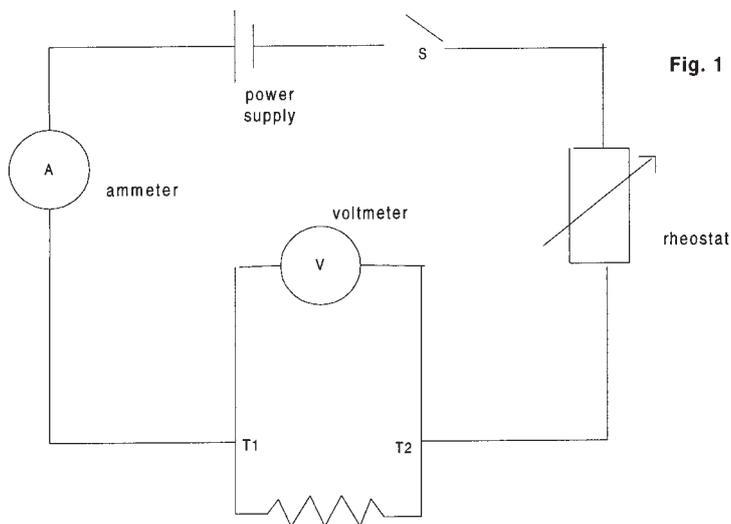

Fig. 1
- 3.2 You are provided with electrical wire connections, an ammeter, a voltmeter, a power pack and a rheostat. Connect these to the electrical heater device as shown in Fig. 1. **Do not switch the circuit on until your instructor has seen that your set-up is correct.**